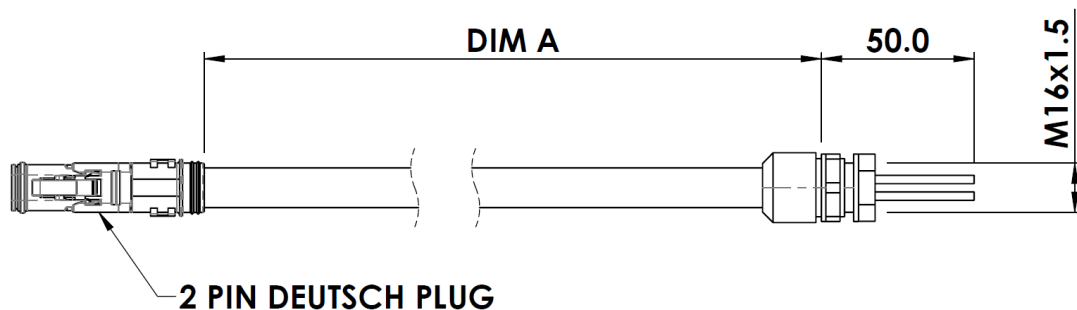

Figure 13 – Source Power Extension harness details
8. To facilitate simpler field wiring, Banlaw offers a range of source power extension harnesses. These are supplied with a mating 2-pin DT Series Deutsch plug and 2 bare cores with a cable gland for termination into an appropriate power source. Refer to Figure 13 and Table 3 for details and ordering information.